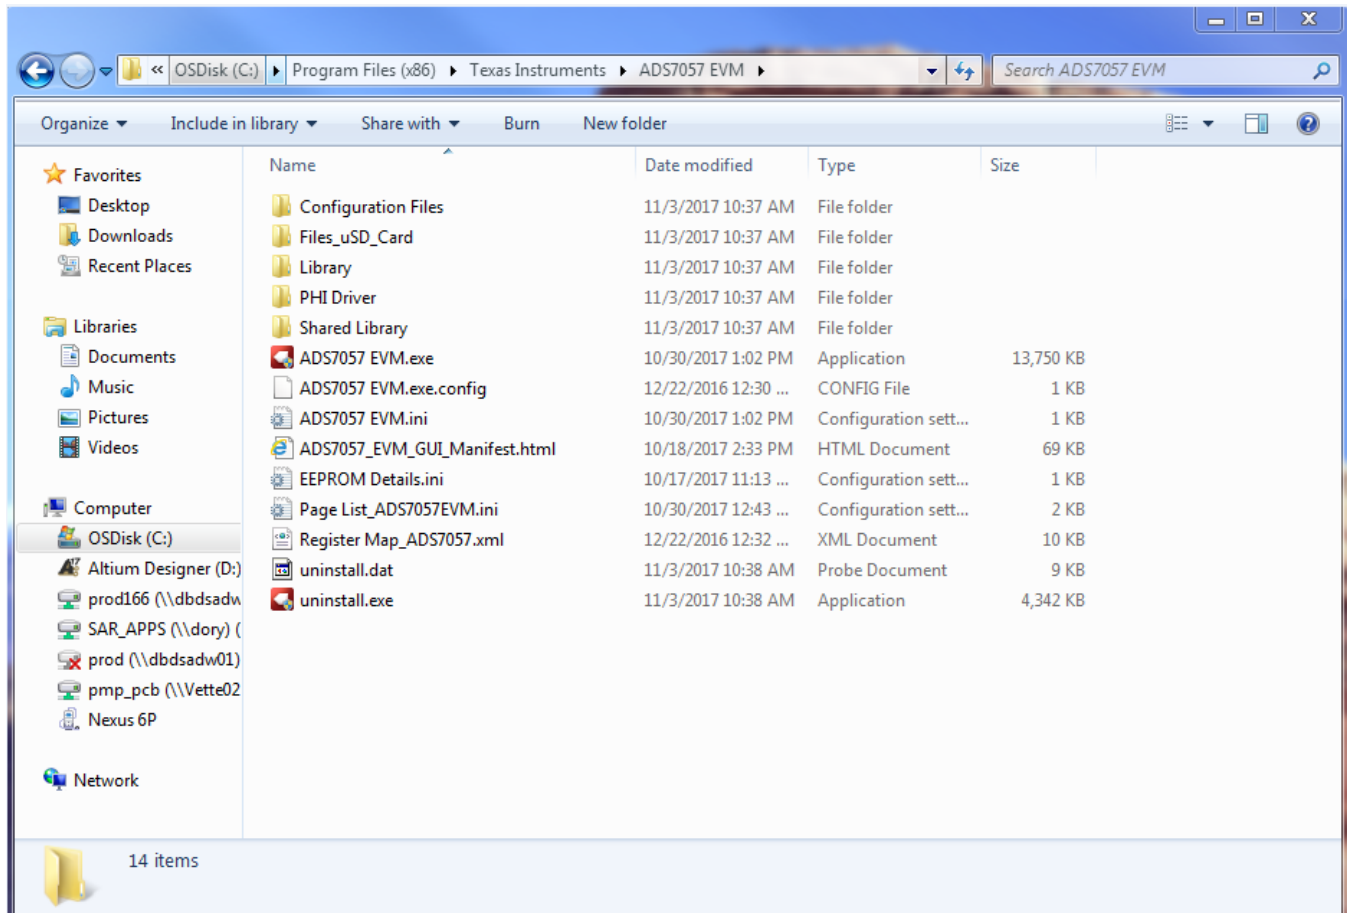

Figure 8. Launch the EVM GUI Software
3. Launch the device EVM GUI software from the installed path, as Figure 8 shows, or using the desktop shortcut created during installation.